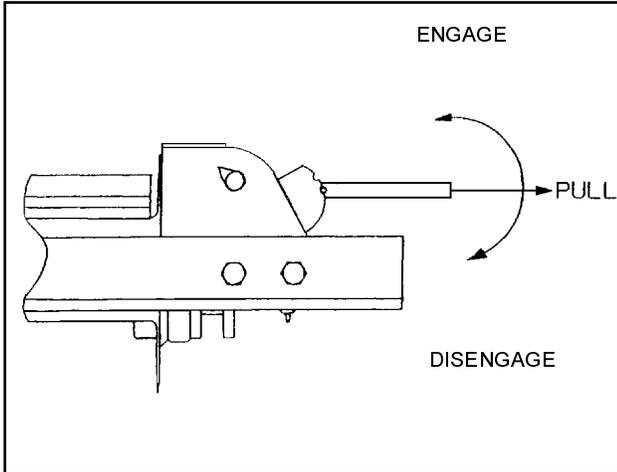

Figure 3-3 12,000# Winch Clutch
3-15.2 The **WINCH CLUTCH HANDLE** (See Figure 3-3 and 3-4) is located on the right or curb-side end of the winch assembly. The function of the **WINCH CLUTCH HANDLE** is to engage or disengage the winch, allowing it to respond to the **WINCH HYDRAULIC LEVER**. For trailers equipped with optional **PNEUMATIC WINCH CONTROL** (20,000 lb.), the control is a switch on the control panel. If the semitrailer also has the optional **WINCH AIR TENSIONER**, it also is controlled by the same switch on the control panel. For the 20,000 lb. winch, this switch controls both the clutch and the winch air tensioner simultaneously. For the 12,000 lb. winch, this switch controls only the air tensioner.
a. The **12,000 lb. WINCH CLUTCH HANDLE** has two positions: (See Figure 3-3)